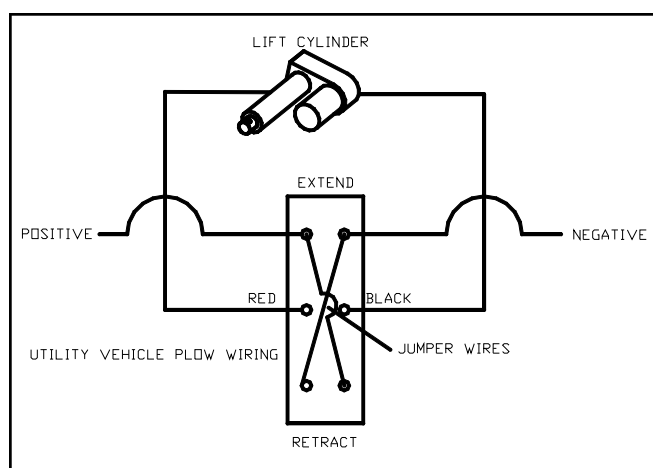

Fig. 3.3 — Switch wiring.
- 3.3 Feed the wires from step 3.1 through the rectangular hole in the switch bracket, trim to length and install female push on terminals. Connect to male terminals on the switch as shown in figure 3.3.